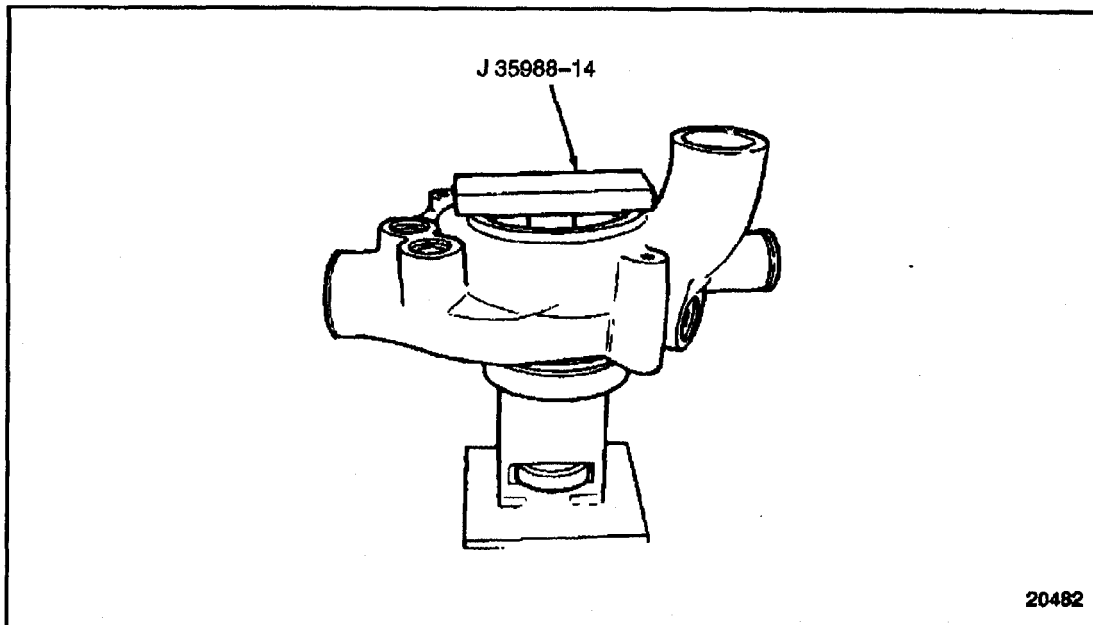

Figure 4-32 Water Pump Impeller Location (GCM)
22. Using the impeller installation tool J 35988-14, part of tool set J 35988-B, press the impeller on until the tool is flush against the water pump body. See Figure 4-32.